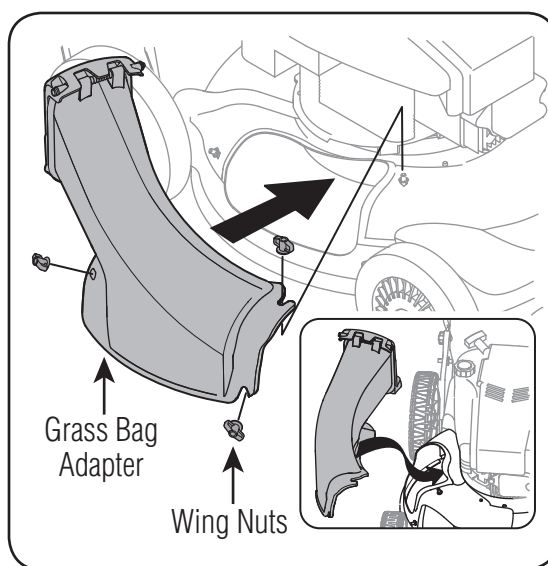

Figure 6
- Replace with bagging adapter (see Figure 6). Attach using wing nuts. Be sure that inner lip of attachment goes under the edge of the deck.